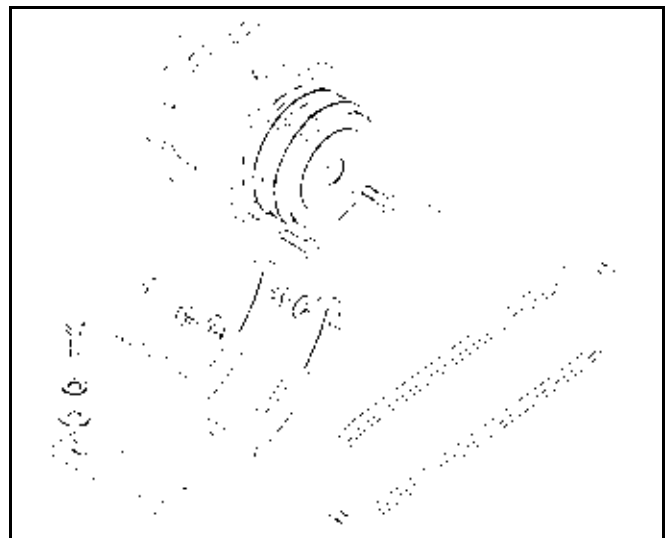

FIG 8.56
To tighten air conditioner compressor belt, loosen the two pivot bolts (fig. 8.56, item 1) and the two slide bolts (fig. 8.56, item 2). Using a suitable prying tool, adjust tension on belt to desired tautness. While maintaining tension, re-tighten all four bolts. Inspect belt every 250 hours.